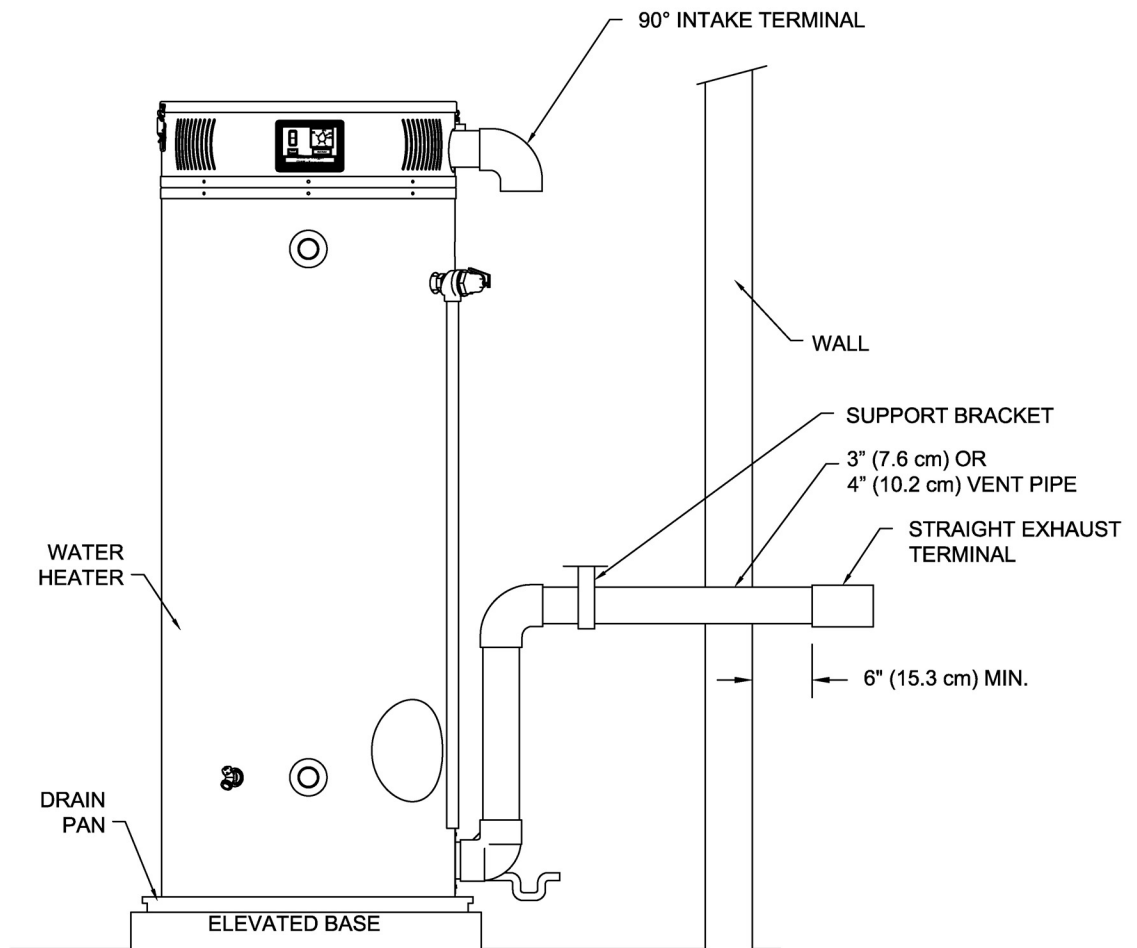

Figure 16. Typical Horizontal Power Vent System
2. Use the proper cement or sealant to secure the exhaust vent terminal provided with the water heater to the plastic pipes. The distance between the back edge of the exhaust vent terminal and the exterior wall (see Figure 16) must 6 inches (15.2 cm). Use the proper cement and assembly procedures to secure the vent connector joints between the terminal and the blower outlet. Provide support brackets for every 3 feet (.9 m) of horizontal vent.